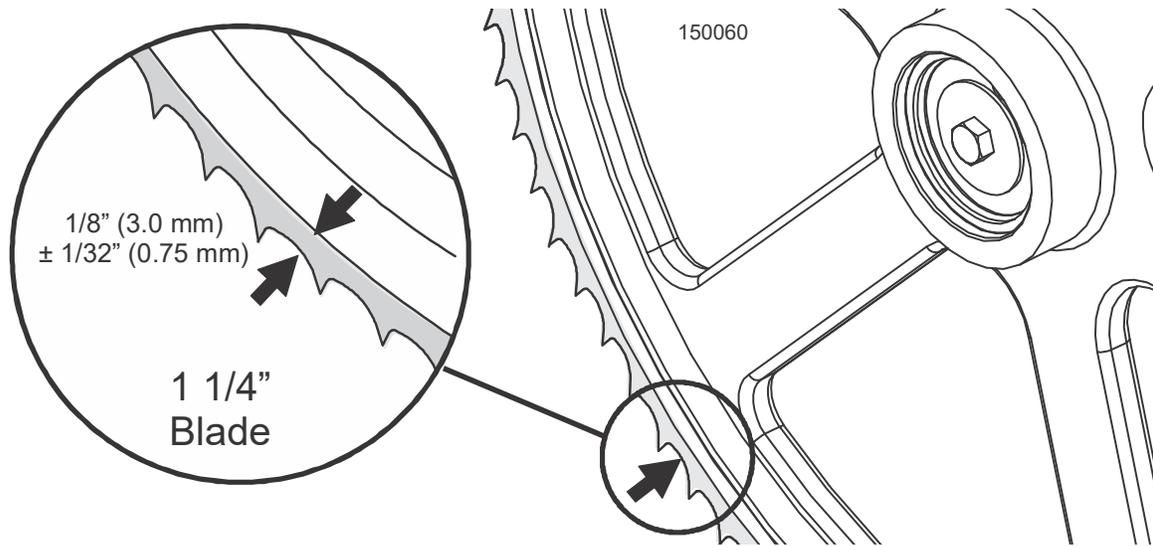

FIG. 4-6
- Position 1 1/4" wide blades so the gullet is 1/8" (3.0 mm) out from the edge of the blade wheel ($\pm 1/32$ [.75 mm]). See FIG. 4-6.